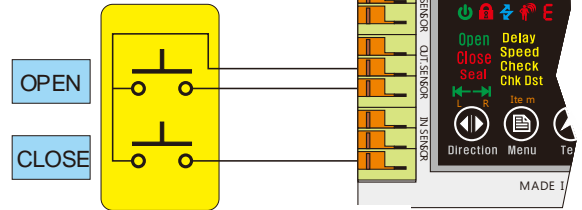

Fig. 4-2
- Connect as per figure 4-2 and setting coefficient to "So" as 2